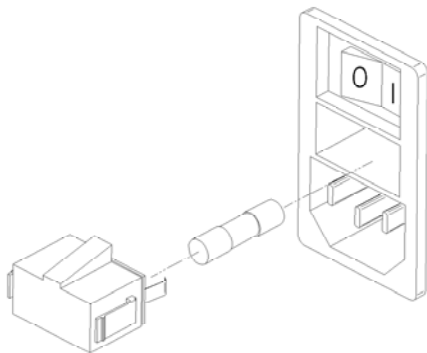

Figure 5.5: Model 3300 ELSD Fuse Block
2. Gently squeeze the side tabs of the fuse drawer and pull the fuse drawer straight out. Refer to Figure 5.5 for details.